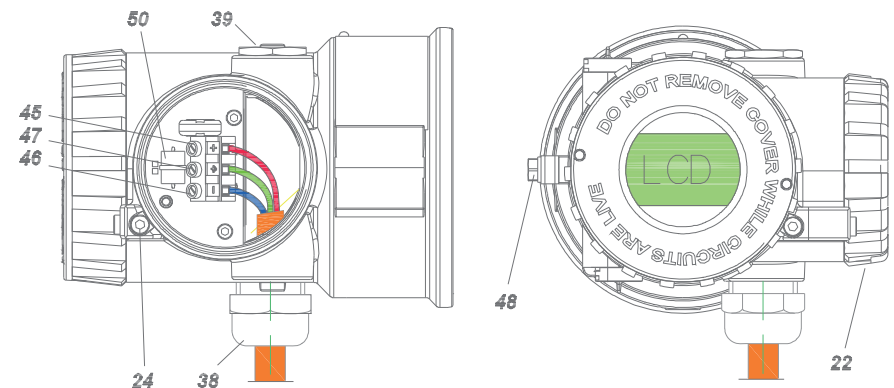

Figure 9
7.2.1 Open lid lock 24 (if provided) and unscrew lid 22. wires are connected to terminals 45, 46, 47 via wire sealing tube. Care must be taken to install the wire seal tube. Unscrew cover 22 and install cover lock 24. connect additional ground terminal 48 if required, see Figure 9.